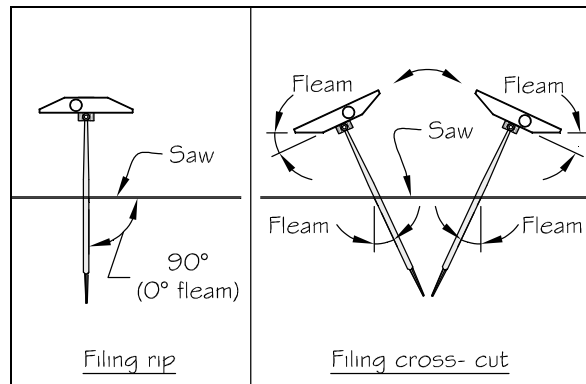
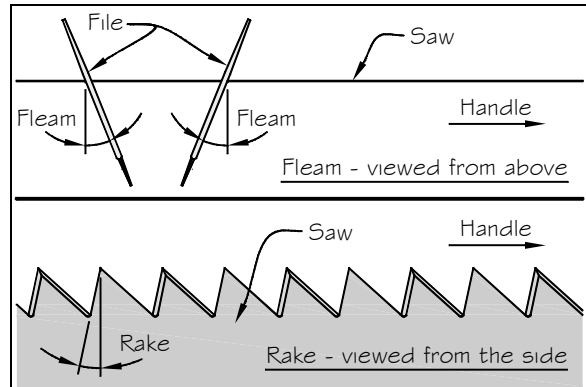
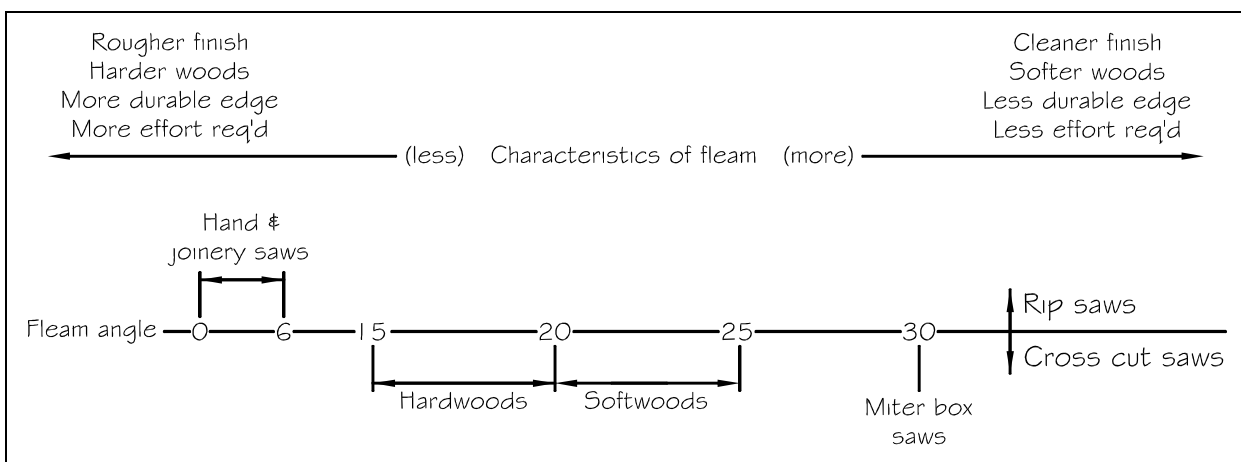

Figure 3. Hold RakeMaker I parallel to the saw plate.
Figure 5. Cross cut saws – rake and fleam.
Figure 7. Guidelines for fleam angles.
- i. **Filing from one side:** For *rip* saws, file each tooth consecutively. For *cross cut* saws, you may file each tooth in order, or file every other tooth, then come back and file the remainder. There is no need to adjust the RakeMaker I, but you will need to swing the file from side to side to add fleam (Figures 3, page 5, and Figure 5, page 6).
One customization is trimming both ends to the fleam angle you use most often, allowing you to file both consistent rake and fleam angles with the RakeMaker I. By flipping the RakeMaker I over, you still have a flat reference edge to use on rip saws (Figure 3).
- ◆ **About fleam.** Fleam arises when the file is swung to the side in the horizontal plane. It is measured as the deviation of the file from a line drawn perpendicular to the saw plate (Figure 5, page 6). Figure 7 (page 6) shows general guidelines for fleam angles. While most rip saws are filed with no fleam, you may find that a few degrees of fleam helps smooth out the cutting action.